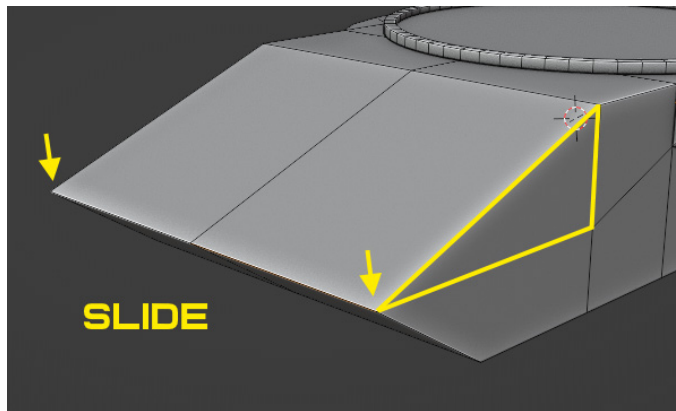

Figure 8.1 – A sliding edge
1. Press *G* twice to slide down the edges at the front of the hull, as shown in *Figure 8.1*. Remember to merge vertices with *Shift + W*.